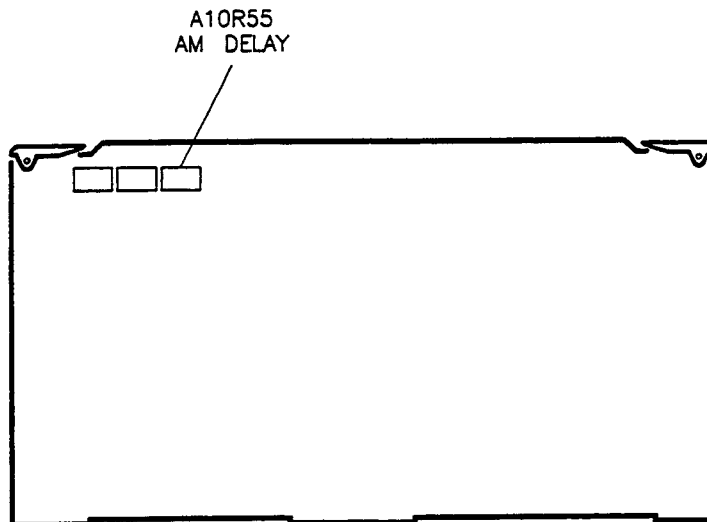

Figure 3-34. AM Delay Adjustment Location
6. Adjust A10R55 (see figure 3-34) for a minimum ac voltage reading on the DVM.